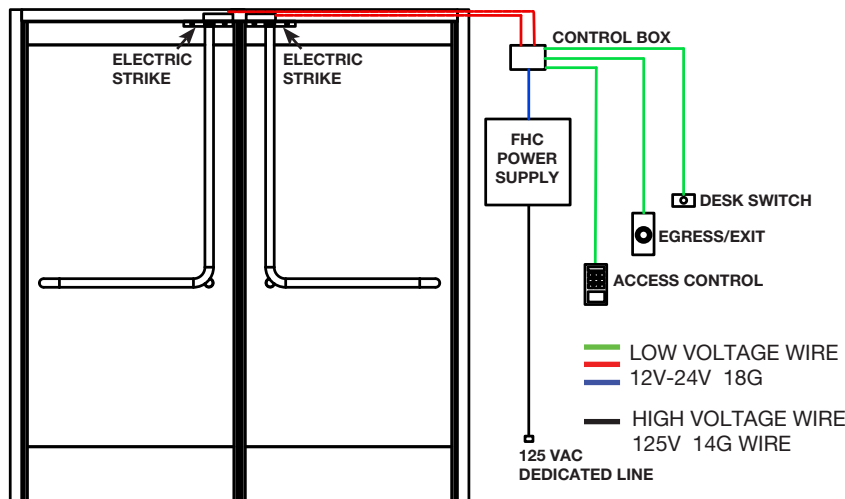

Fig. 2
**FHC recommends pre-wiring the header in the early stages of the project (See Figure 2).**